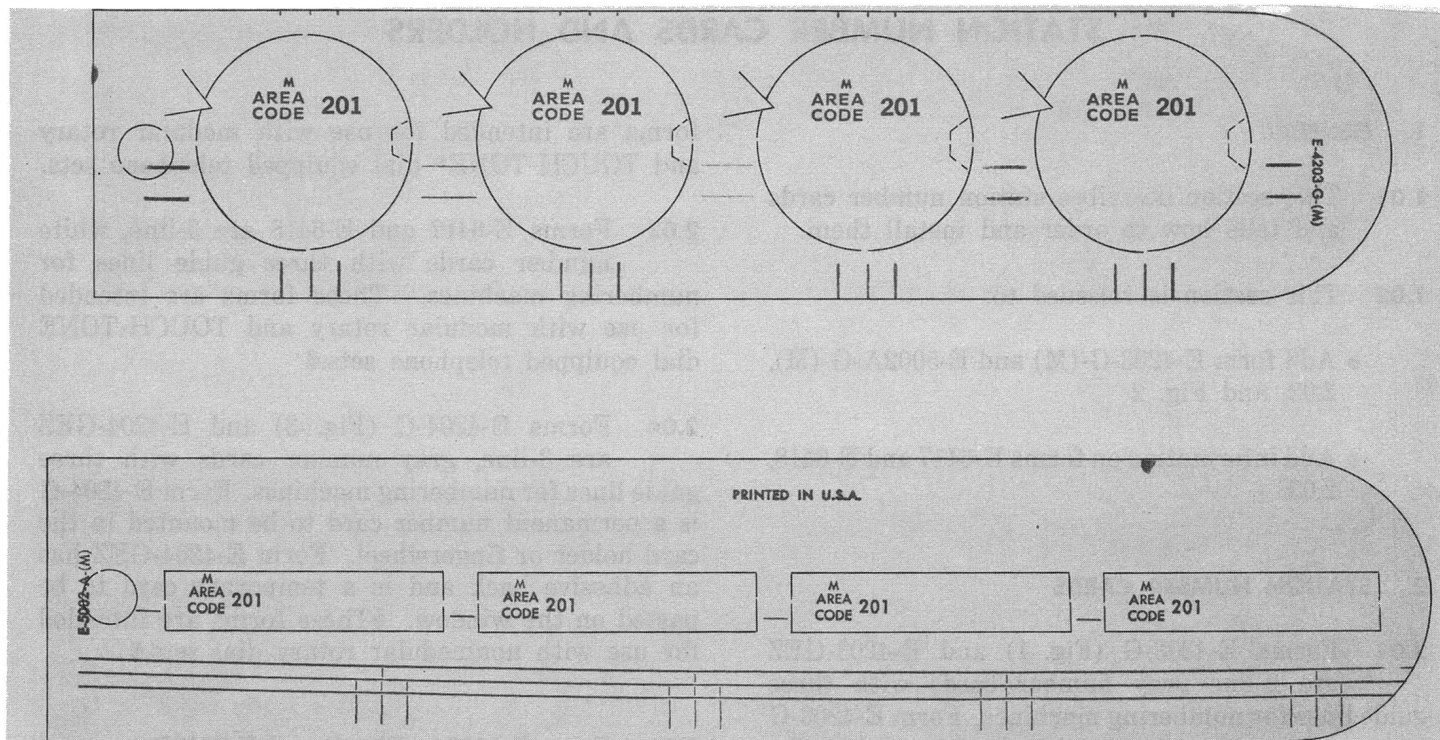

Fig. 2—Form E-4203-G-(M) and Form E-5002A-G-(M) (Quantity of Four)◆
- Add form E-4203-G-(M) and E-5002A-G-(M), 2.02, and Fig. 2
2.02 ♦Forms E-4203-G-(M) and E-5002A-G-(M), Fig. 2, are 3-line, gray number cards with three guide lines for numbering machines. These